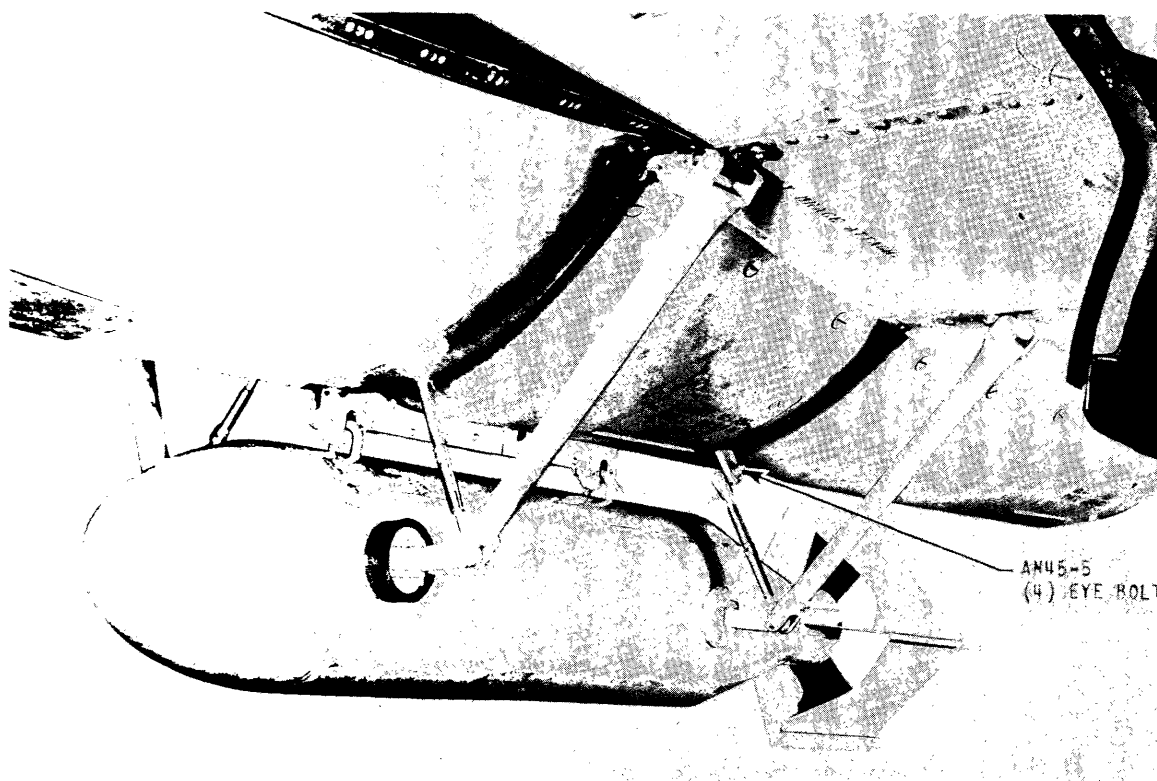

Figure 83 - 100-Pound Practice Bomb Loaded
c. Be sure that the sway brace feet are attached by the long leg on the fittings as illustrated in figure 83, and that the rubber pads are installed on the front feet only.